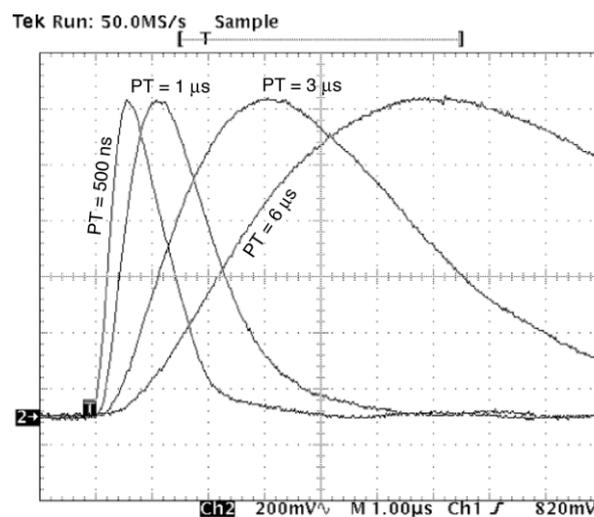

Fig. 10 Output of the Shaping amp for different settings
*Shaping Amplifier:* The functionality of this stage is shown in Fig. 10; the same input signal has been shaped with the four allowed different rising times; in each case the pole zero cancellation was optimised. The four shapes have been stored on the digital scope at different times, and displayed all together for comparison. For each of the selectable peaking times, acting on the fine tuning of the shaping amplifier, the peaking time ranges have been measured to cover with continuity all the values.